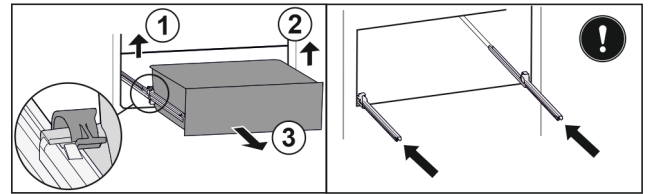

Fig. 141
- Lift left clamp and simultaneously pull drawer forwards on the left. Fig. 141 (1)
- Lift right clamp and simultaneously pull drawer forwards on the right. Fig. 141 (2)
- Remove drawer to the front. Fig. 141 (3)